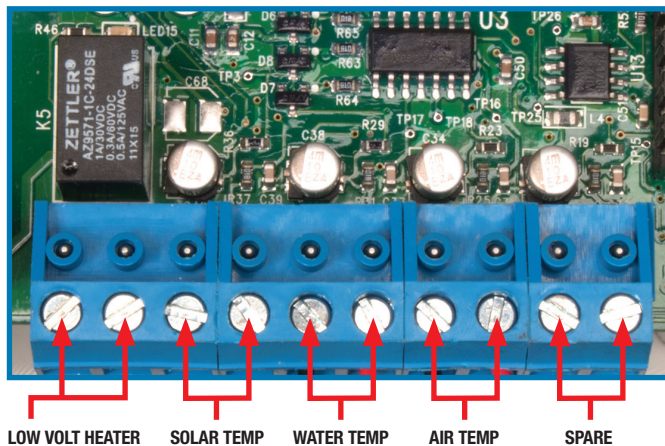

Figure 5. Sensor Connection
3. Connect Solar sensor wires to pins #3 and #4. (see Figure 5. Sensor Connection).
3. Connect sensor wires to pins #1 and #2. (see Figure 5. Sensor Connection).